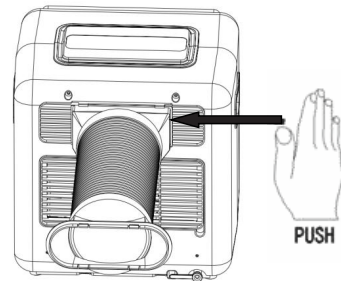

Figure 2
1.1.3 Insert the exhaust duct components (internal joint) to the card slot at the rear shell exhaust port (push to the left side). (As shown in Fig. 2)